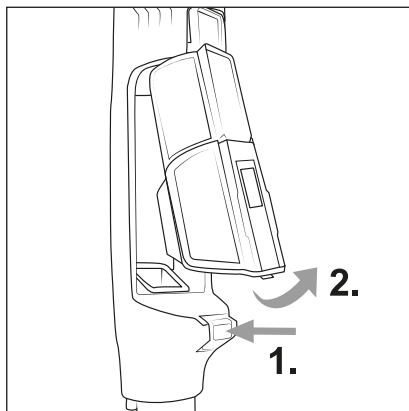

Fig. 14
- Empty the dust container (7) and clean the stainless steel filter (6) and the HEPA filter (4) regularly to ensure proper operation of the appliance and avoid failures.
- If the HEPA filter (4) becomes heavily soiled, the device will automatically turn off and the LEDs on the display panel (27) will flash ten times. After cleaning the HEPA filter container (5) and HEPA filter (4), the device can be turned on again.
- 1) To remove the dust container (7) and the HEPA filter container (5) from the appliance, press the dust container release button (25). First, remove the dust container (7) and then the HEPA filter container (5) from the appliance (see Fig. 14).